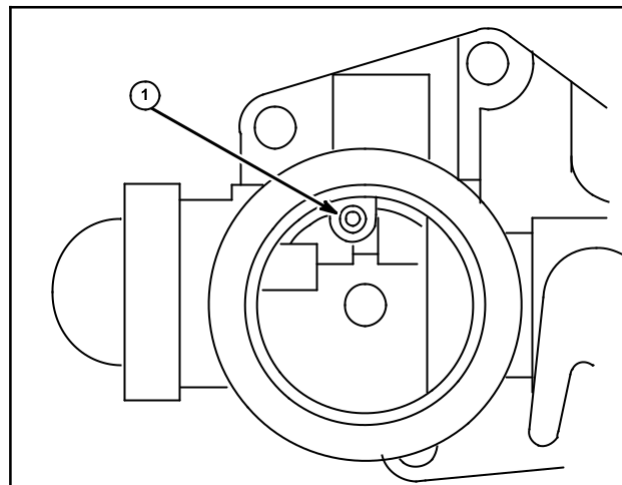

Fig. 6
NOTE: If engine is operated at high altitudes, performance may decrease. If poor performance is experienced remove main air bleed jet (1), Fig. 6.